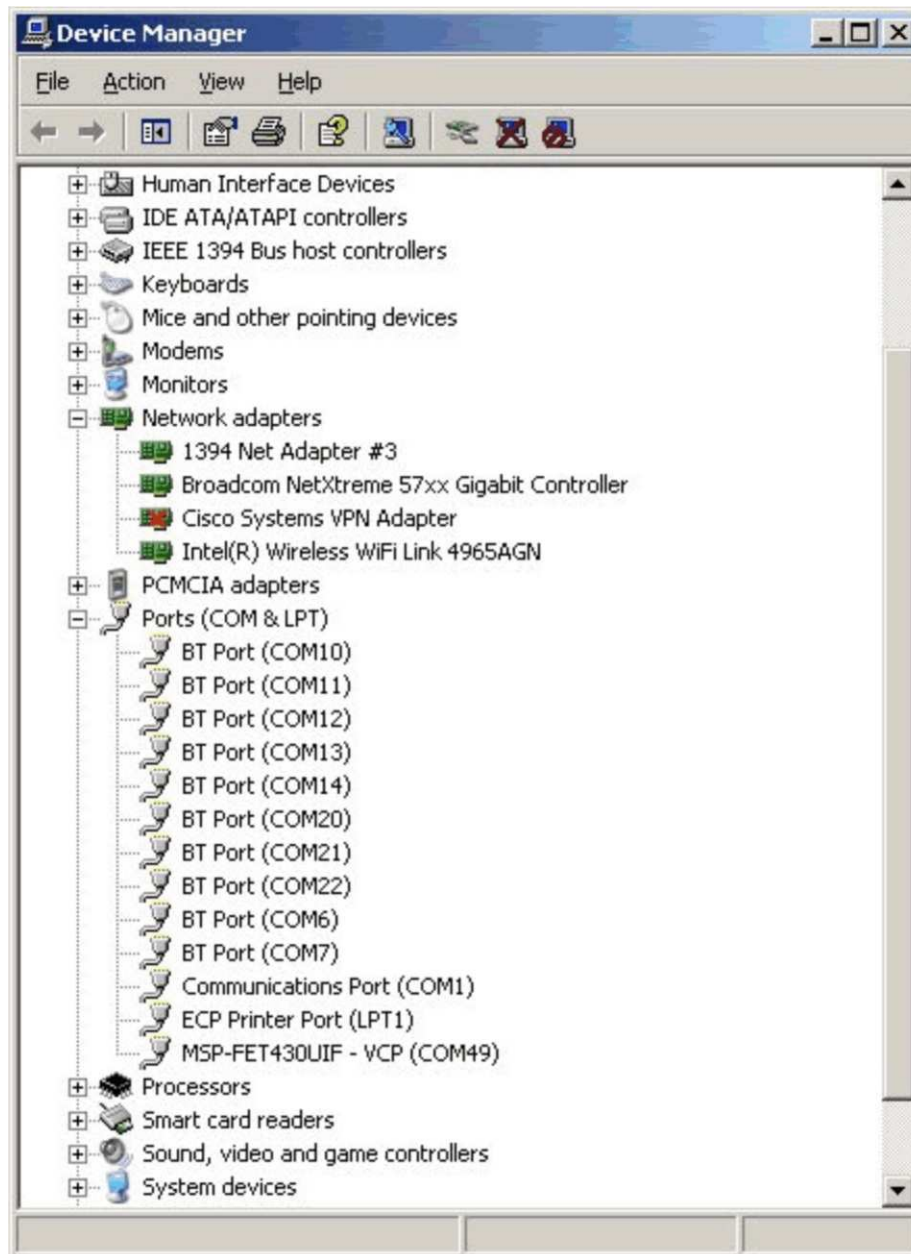
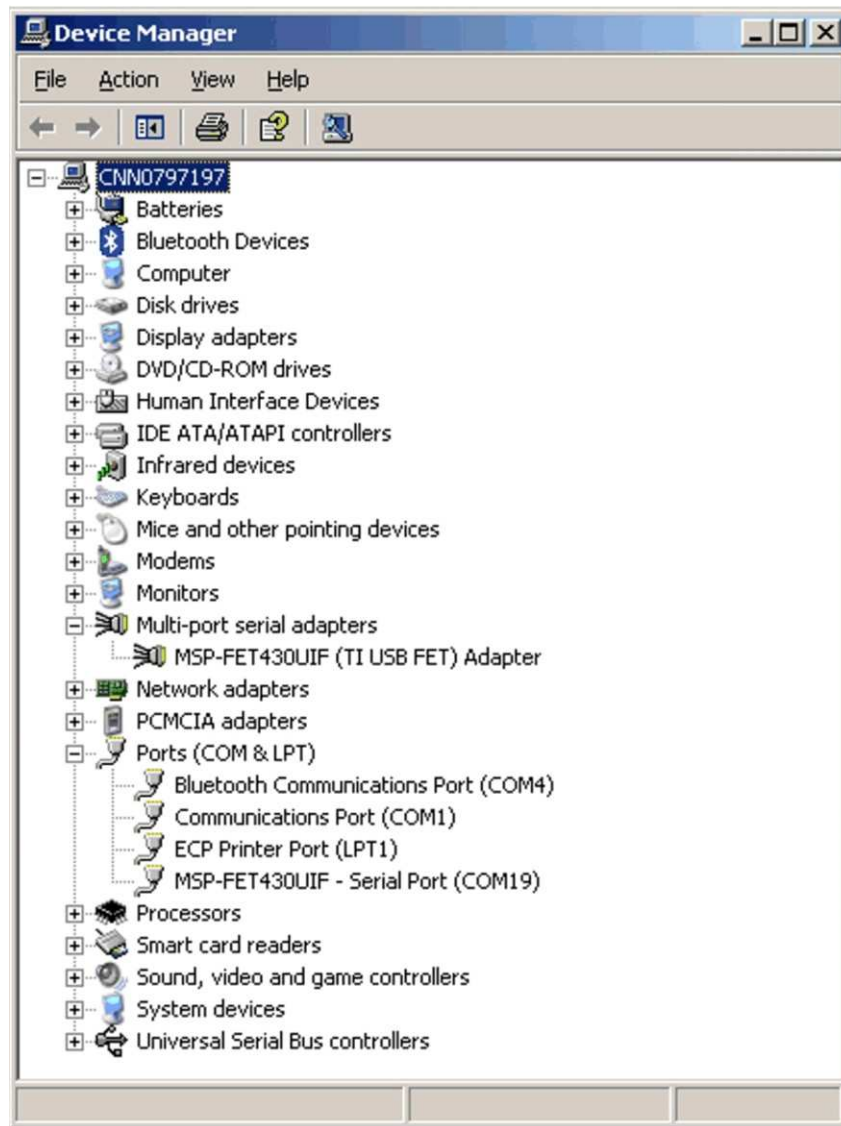
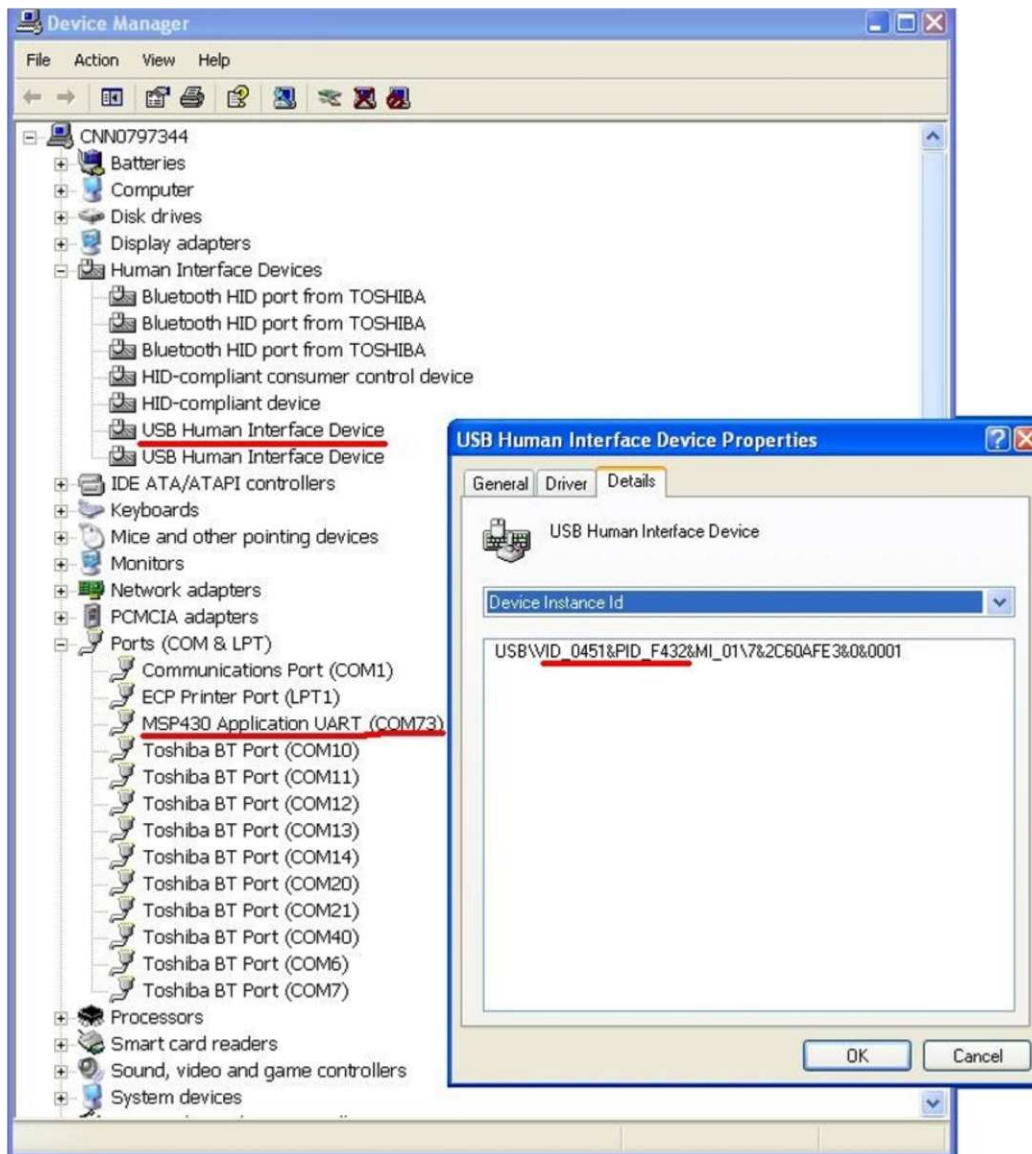

Figure C-3. Device Manager Using USB Debug Interface using VID/PID 0x2047/0x0010
Figure C-4. Device Manager Using USB Debug Interface with VID/PID 0x0451/0xF430
Figure C-5. Device Manager Using USB Debug Interface With VID/PID 0x0451/0xF432
8. The USB debug interface is installed and ready to use. The Device Manager lists a new entry as shown in Figure C-3, Figure C-4, or Figure C-5.